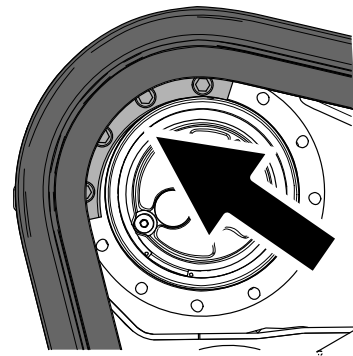

Figure 69
5. Move the traction control forward until the drive sprocket segment engages with the track (Figure 69).
10. Apply thread-locking compound to the bolts of the other drive sprocket segment that you removed and install the sprocket segment (Figure 69). Torque the bolts to 247 to 301 N·m (182 to 222 ft-lb).